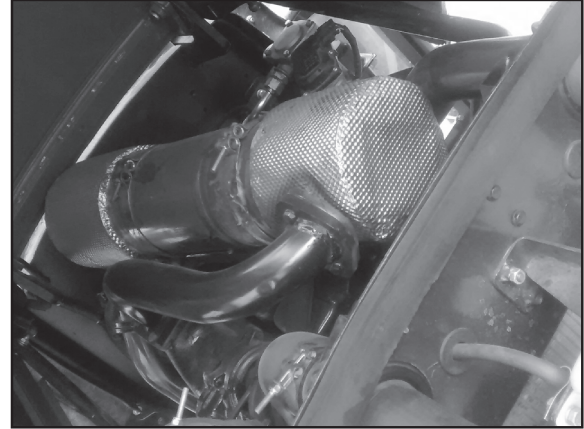

Fig. 4-2
4.10 Under Hood Muffler Fig. 4-2